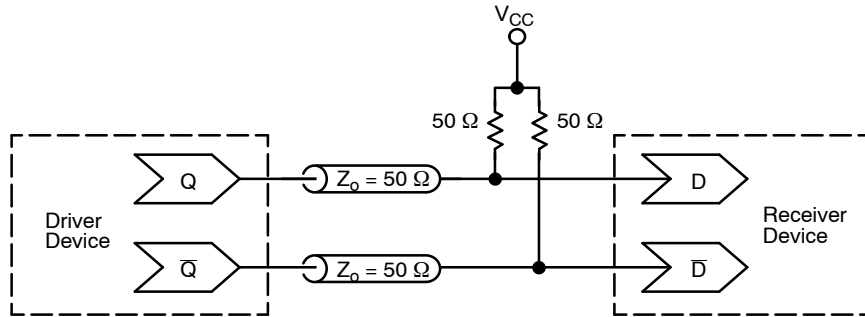

Figure 10. Typical Termination for Output Driver and Device Evaluation
- CML outputs require 50  $\Omega$  receiver termination resistors to  $V_{CC}$  for proper operation (Figure 10).